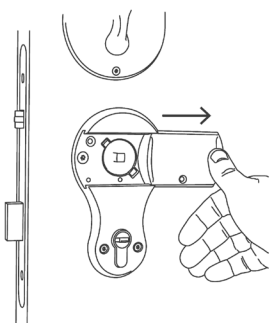

Figure 10.4
• 5 Way Staff Override System (Figures 10.4, 10.5, 11.1 and 11.2)